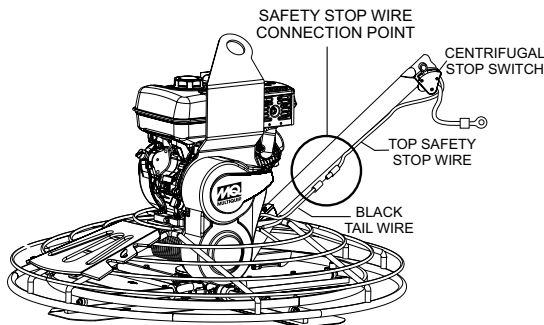

Figure 8. Safety Stop Switch Connection
- Connect the black tail wire from the engine to the **top** black safety stop wire from the centrifugal stop switch as shown in in Figure 8.